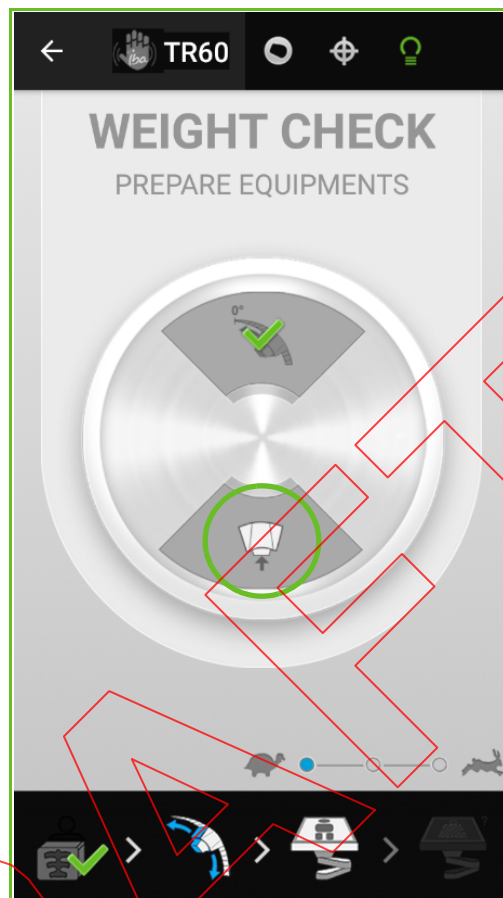

Figure 46-9. Automatic weight check - Move Gantry
- b. Move the gantry in [-20,20] range (already ready in Figure 46-9) and retract the nozzle by pressing the **Retract Nozzle** (🔍) icon (see Figure 46-9).